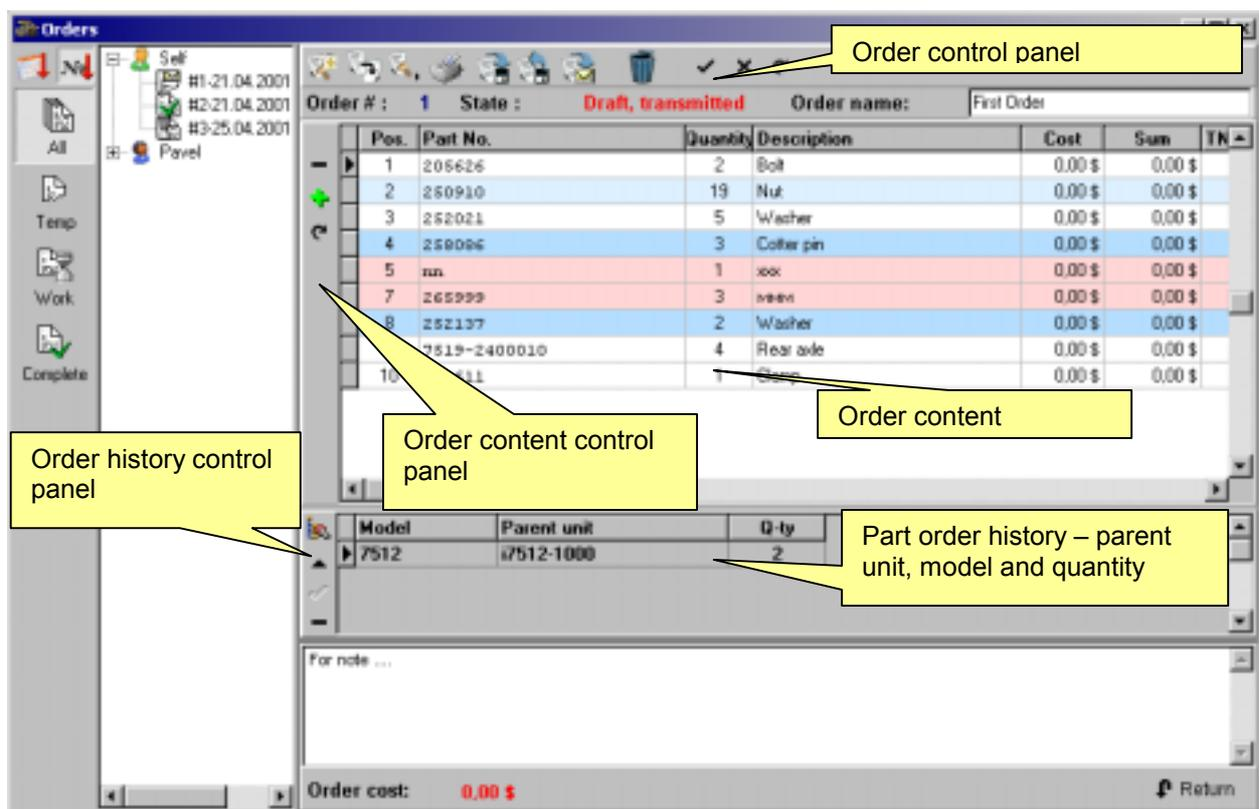

Fig. 24
After the first start of the program you do not have any order saved. You should create an order. Choose required customer in window “Orders”. To proceed with creation of an order, click a “New Order” button (icon ) (see Fig. 24). Click “Yes” when the program asks you, if you want to create a new order. Now the order is created and you may add components to it.
It happens, that you need to create an order similar to existing one, created by you earlier. In such cases, in order not to create the whole order once again, there is a possibility to create a new order based on an existing one. To proceed click on the icon “Use existing order”  in the window “Orders” (see Fig. 24). Confirm creation of the order. That’s all, now your new order is fully identical to the order you chose, but it has a new number and a current date. Now you can edit it and send.
- Check a number of the current order and a customer to whom belongs the order (if you have several customers), it is shown in the left upper part of the window. If required, look through the contents of your order by clicking "Orders" button. It is possible to browse and edit the order in the "Orders" window (see Fig. 24). This will be described further.
You can add to order the parts which are not available in current version of the catalogue by applying to the window "Order". This input is considered as imprecise because of possible errors or misprints in the process of data manual input (typing) and in this case an adequate line will be marked properly (see Fig. 24). To add part manually press "plus" button on the control panel of order content and it will open dialog box.